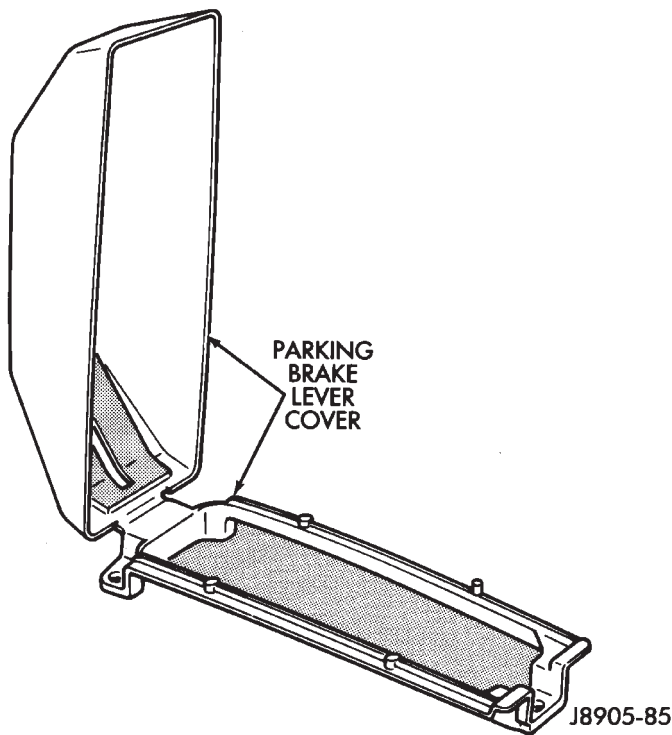

Fig. 10 Lever Cover (XJ)
- (1) Raise vehicle.
- (2) Remove nuts attaching lever support plate to underside of floorpan.
- (3) Remove adjusting nut from tensioner rod. Then temporarily secure equalizer and cables to nearby chassis component with wire.
- (4) Lower vehicle.
- (5) Raise lever cover at rear and tilt it forward (Fig. 10).
- (6) Remove cover attaching screws. Or, if cover is attached with rivets, drill out and remove cover.
- (7) Disconnect brake warning light wire at lever.
- (8) Remove lever and tensioner assembly from floorpan.
- (9) Move cover and boot aside for access to tensioner retaining pin and clip.
- (10) Remove pin and E-clip that secure tensioner to lever arm and separate lever and tensioner.